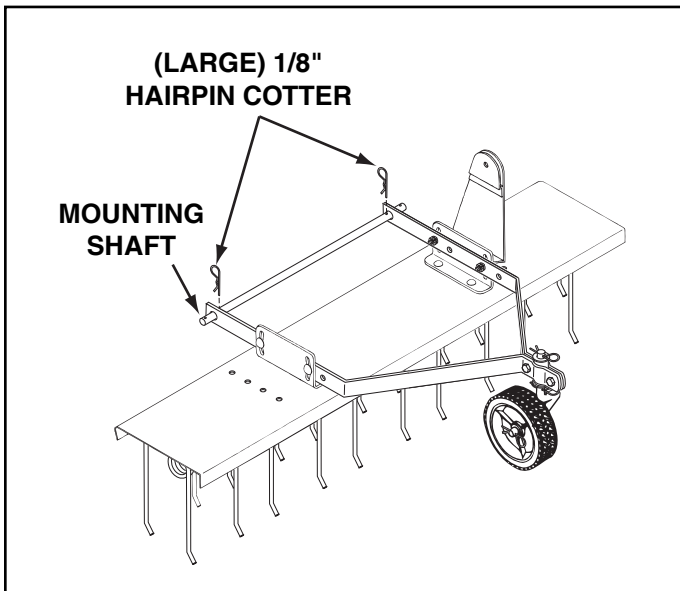

FIGURE 6
- Insert mounting shaft through holes in both mounting arms. Secure mounting shaft to mounting arms with two (large) 1/8" hairpin cotters assembled into inside holes of shaft. See figure 6.